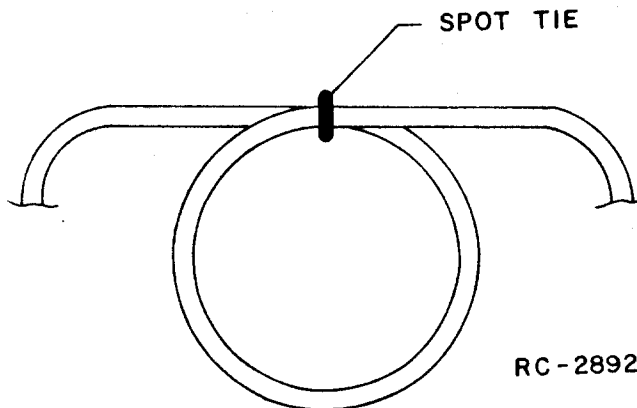

Figure 9 - Arrangement of Long Cables
3. In applications where there is an excess of cable between the Duplexer and Transmitter or Receiver connector, the cable should be coiled and tied as shown in Figure 9. Do not harness the transmitter and receiver cables together.